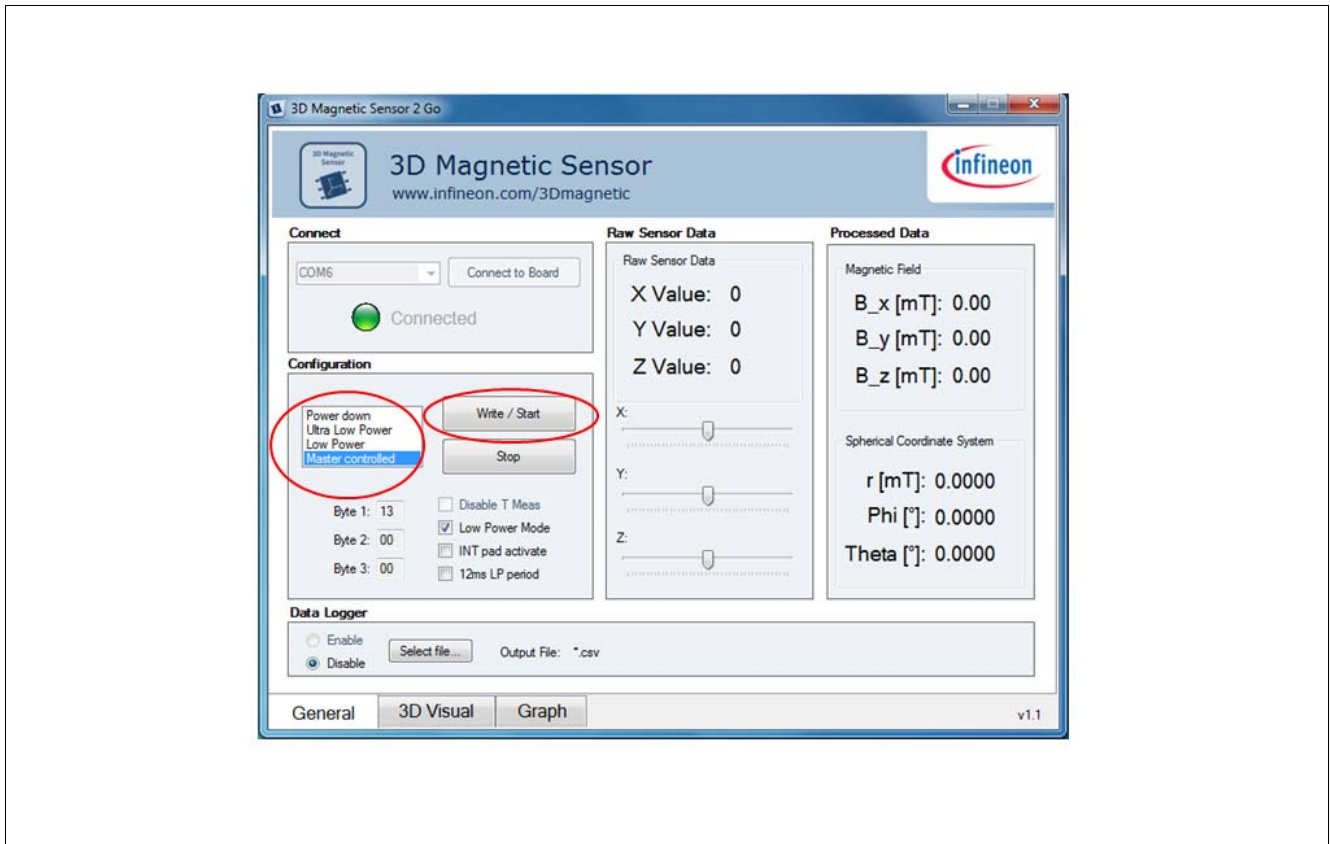

Figure 7 Demo-Software - Configuring the Sensor
4. In the Configuration area choose the mode (see Figure 7).